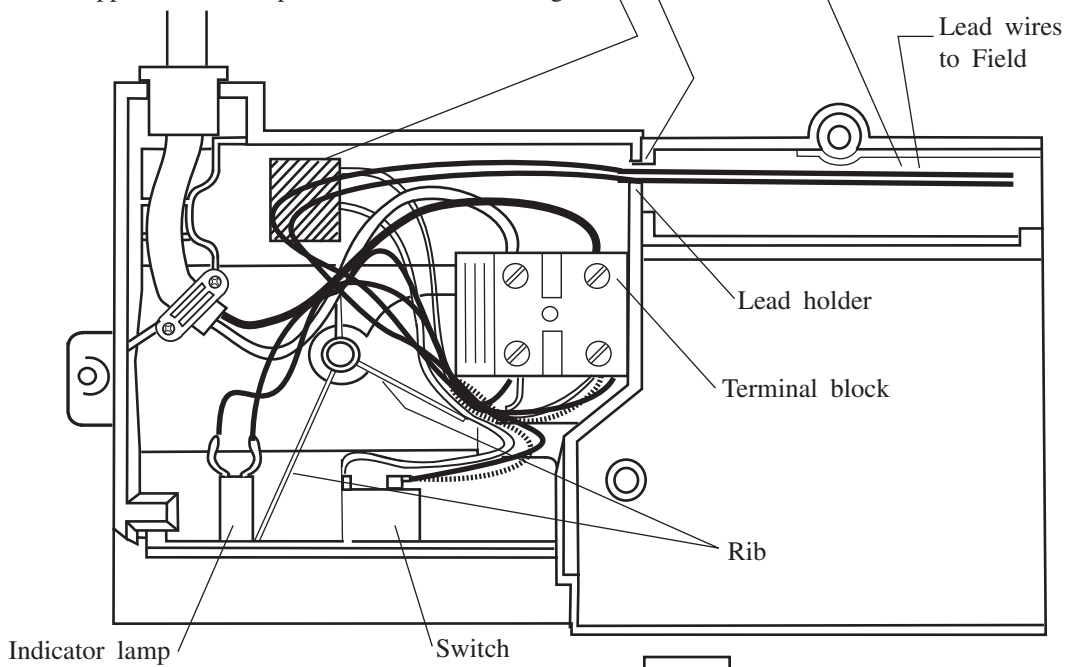

Fig.12
(3) Leas wire to field has to be set so careful that they would not be pinched by ribs as illustrated in Fig.12.
Set noise suppressor in the position illustrated in Fig.12.